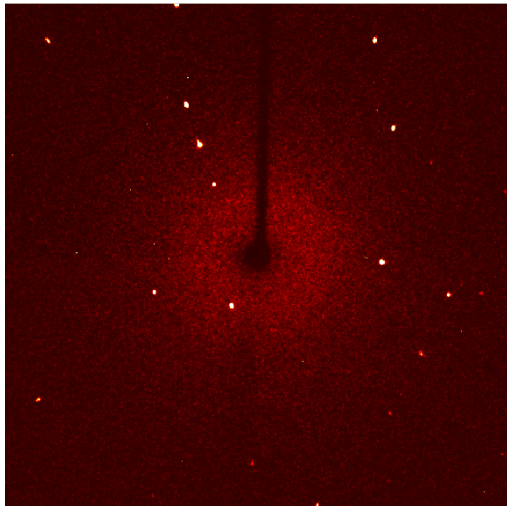
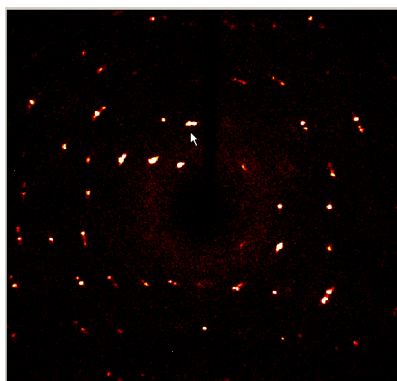

Figure 5.20 - A 2° phi scan on a high quality crystal. The spots' shapes are well-defined and the spots are well-separated.
Figure 5.24 - A 2° phi scan on a poor quality crystal. The spot shape is poor and the spots are very close together.
7. Click “Drive + Scan”. The resulting 2-degree scan is shown in Figure 5.20. The spots are sharp and clean. There are no peaks that are very close together. Figure 5.24 shows a 2-degree scan with a bad crystal.